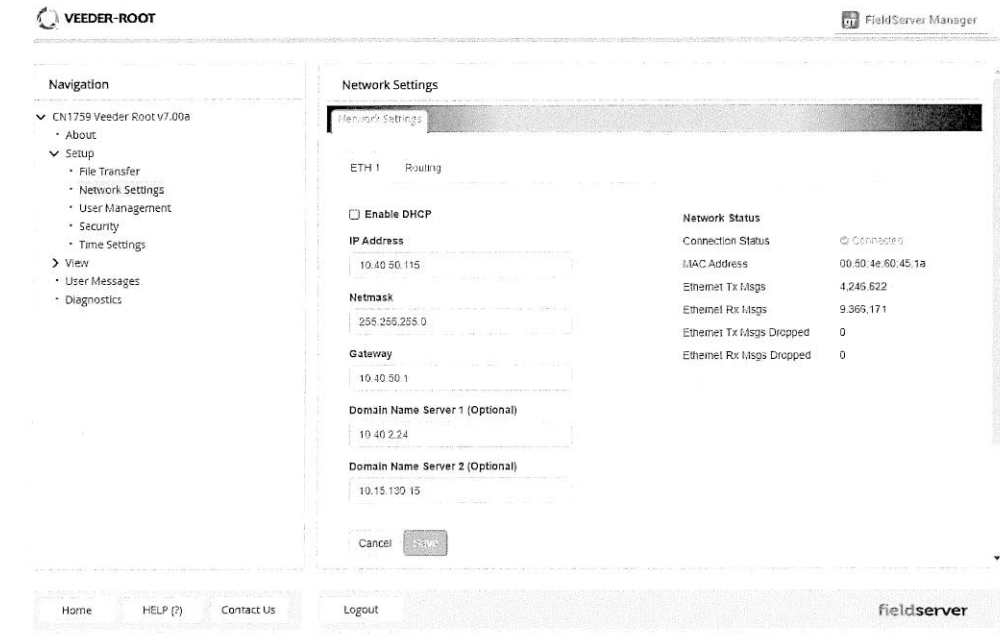

Figure 19. Changing IP Address via FS GUI
**NOTICE** The FieldServer Manager tab  FieldServer Manager (see upper right corner of browser in Figure 19) allows users to connect to the Grid, MSA Safety’s device cloud solution for IIoT. FieldServer Manager enables secure remote connection to field devices through a FieldServer and its local applications for configuration, management, maintenance. For more information about the FieldServer Manager, refer to the MSA Grid - FieldServer Manager Start-up Guide.